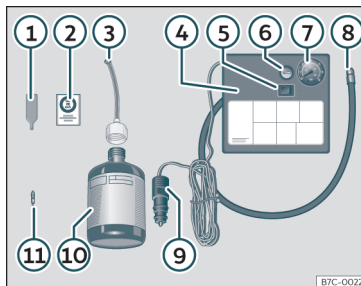

Fig. 83 Standard display: contents of the anti-puncture kit.
The anti-puncture kit is located underneath the floor covering in the luggage compartment. It includes the following components >>> **Fig. 83:**
Screw in the inflator tube >>> Fig. 83 ⑧ again and check the pressure on the gauge ⑦.